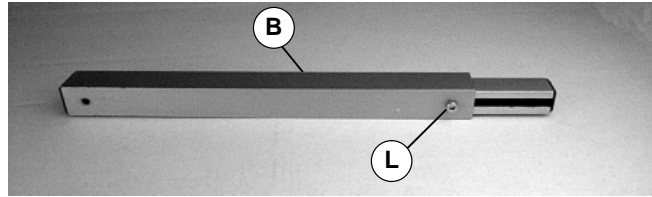

Figure 5
1. Loosen screw (L of Figure 5) of adjustable bar (B).